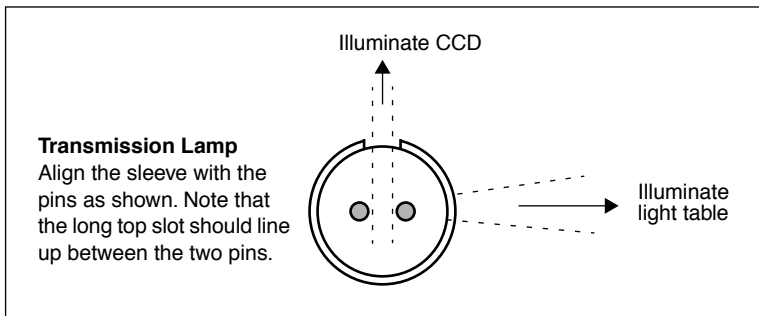

Figure 4: Light sleeve alignment, as seen from the left side of the scanner.
Some times, the sleeve is glued into place when the scanner is first shipped from the factory, but when you replace a light tube, the sleeve will not be glued; it will be tight so that it can not slip freely, but you will be able to rotate it manually if you try. The correct orientation of the sleeve is shown in Figure 4.
5. Install a new lamp following the reverse of the procedure you used to remove it. Make sure the sleeve is aligned correctly with the scanner as shown in Figure 4. Rotate the lamp and/or adjust the sleeve as necessary.